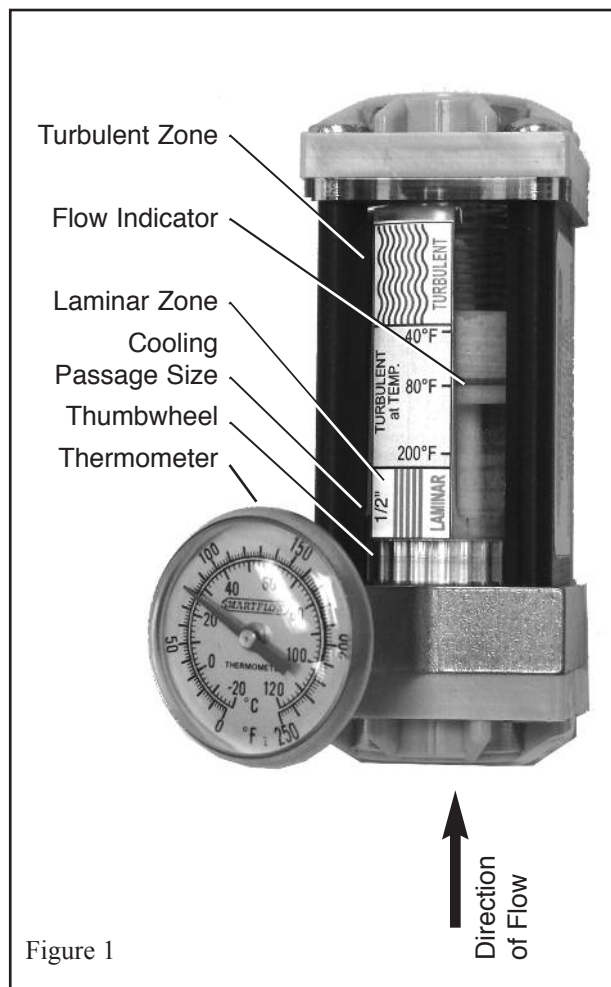

Figure 1
3. Choose the FCI scale that most closely matches your cooling passage ID. Rotate the scale so it may be viewed as shown in Fig. 1. Here we have selected a cooling passage ID of 1/2".
4. Note the water temperature of 80°F on the thermometer as shown in Fig. 1.
5. Adjust the flow to match the 80°F line on the scale as shown in Fig. 1. With flow at this mark or higher Dr. Eddy predicts the flow in the cooling passage to be turbulent. Turbulent flow produces superior cooling results.